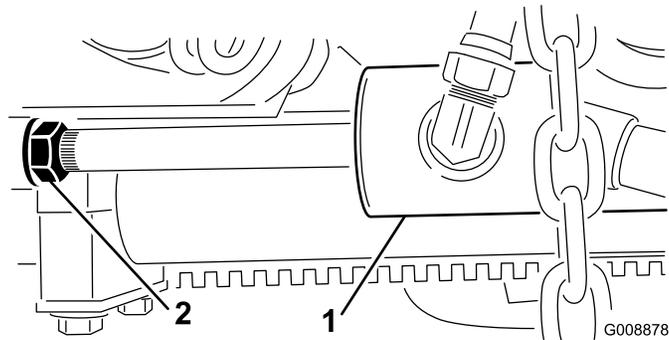

Figure 8
- B. Back off the jam nut on the cylinder (Figure 8).